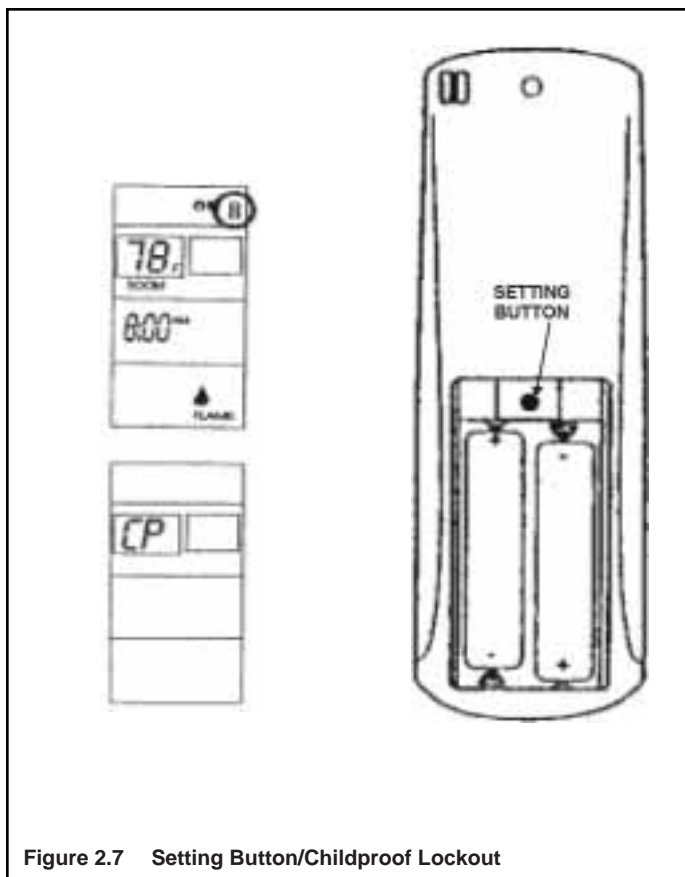

Figure 2.7 Setting Button/Childproof Lockout
- Remove the battery cover on the back of the transmitter and locate the "setting button" at the top center of battery compartment (see Figure 2.7).
- Press and hold in the “setting button” for 5 seconds (see Figure 2.7). The letters CP will display on the LCD screen). This prevents the activation of fireplace. When any function button is pressed ON/OFF etc. the letter CP will display on the LCD screen.